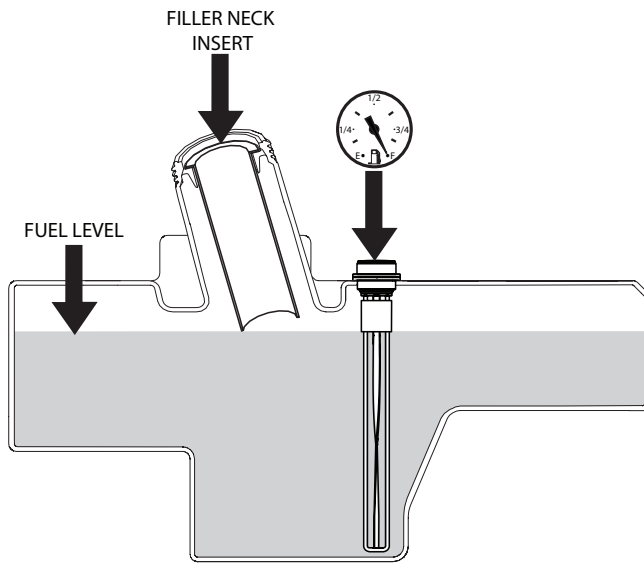

Figure 7-6. C.A.R.B. / EPA Phase 3 Fuel Level
Fill to the bottom of the filler neck insert (approximately 8-1/2 gallons indicating Full (F) on the fuel gauge) at the beginning of each operating day. See Figure 7-6. Do not overfill. Use clean, fresh unleaded gasoline with a minimum octane rating of 87 and a maximum of 10% Ethanol.